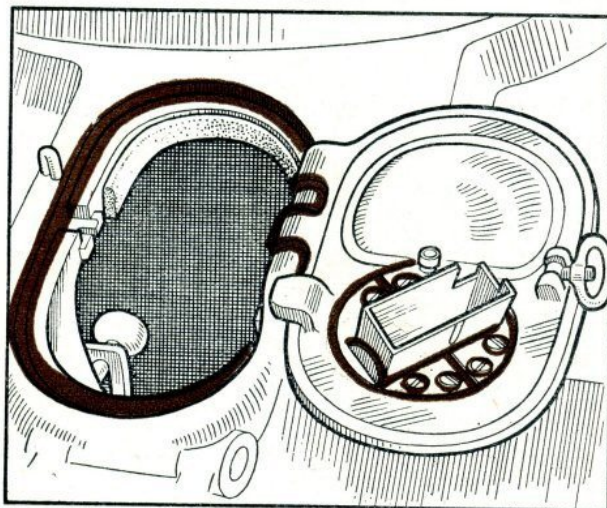
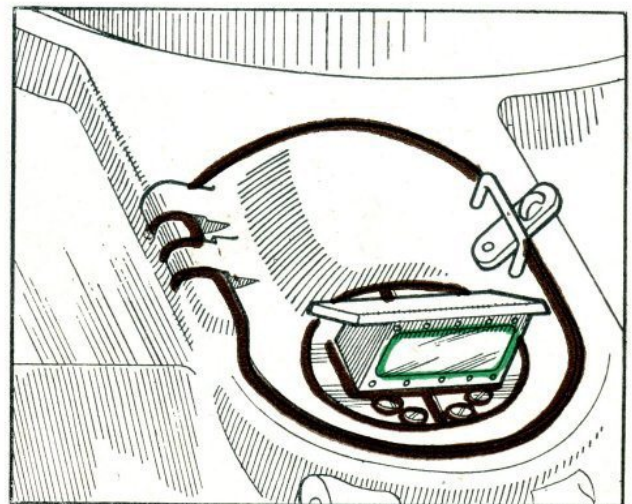

Fig. 40. Hatch sealing (open).
Fig. 41. Hatch sealing (closed).
5. Seal the driver's and co-driver's hatches. Each hatch can be sealed from within the vehicle, and need not be closed until the vehicle is ready to leave the craft. Lay a thick bead of A.C. along the seating for each hatch, as Fig. 40, particularly beneath the hinge. Then, close and lock each hatch. There should be enough A.C. to exude round the hatch as Fig. 41, and if convenient this may be smoothed down by some person outside the vehicle. After hatch sealing is completed, unlock each hatch and tie back the catch so that it cannot re-engage accidentally.